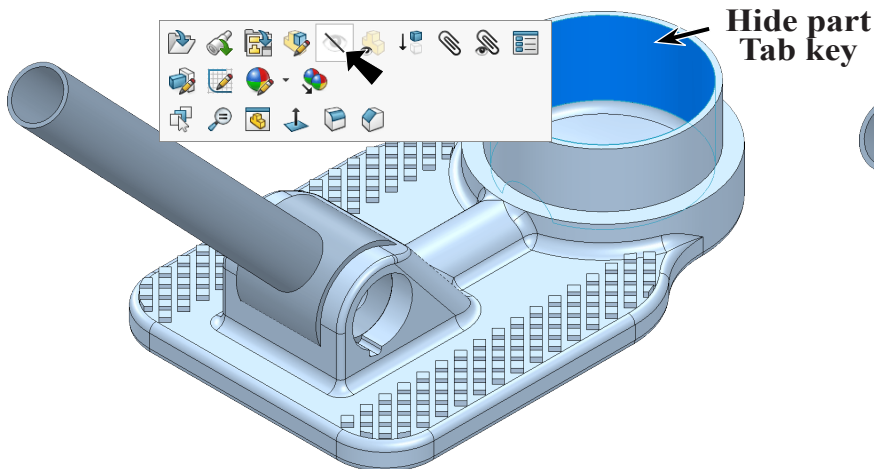

Fig. 12
Step 2. **Hide Base**  part. To hide, move cursor over component in the graphics area and press **Tab** key to hide. Or click **Base** in the graphics area and **Hide Components**  on the context toolbar, **Fig. 12**.